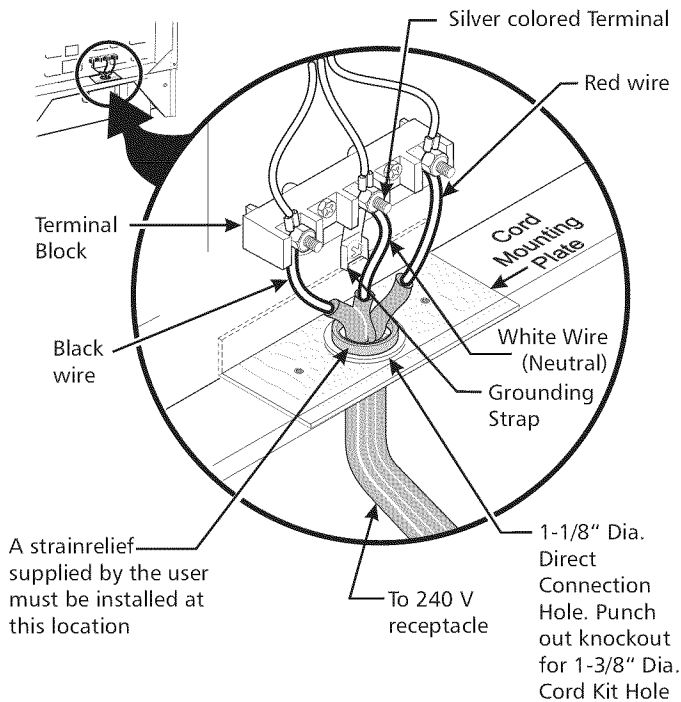

Figure 3
If local codes permit connection of the frame grounding conductor to the neutral wire of the copper power supply cord (see Fig. 3):
2. Using the nuts supplied in the literature package, connect the neutral of copper power supply cord to the center silver-colored terminal of the terminal block, and connect the other wires to the outer terminals. Match wires and terminals by color (red wires connected to the right terminal, black wires connected to the left terminal) (see Fig. 3).